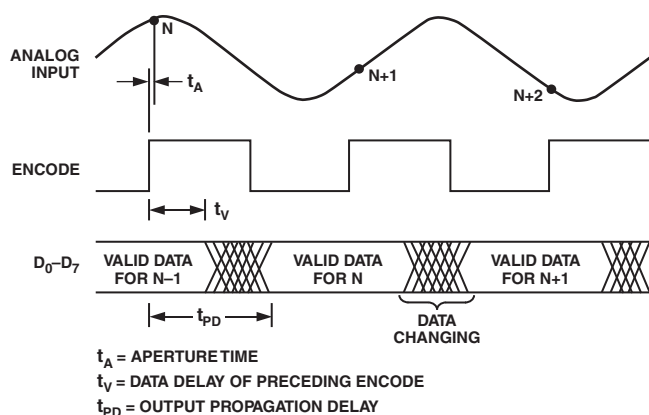

Figure 4. Timing Diagram
Refer to the AD9058 Timing Diagram, Figure 4. The AD9058 provides latched data outputs with no pipeline delay. To conserve power, the data outputs have relatively slow rise and fall times. When designing system timing, it is important to observe (1) setup and hold times; and (2) the intervals when data is changing.